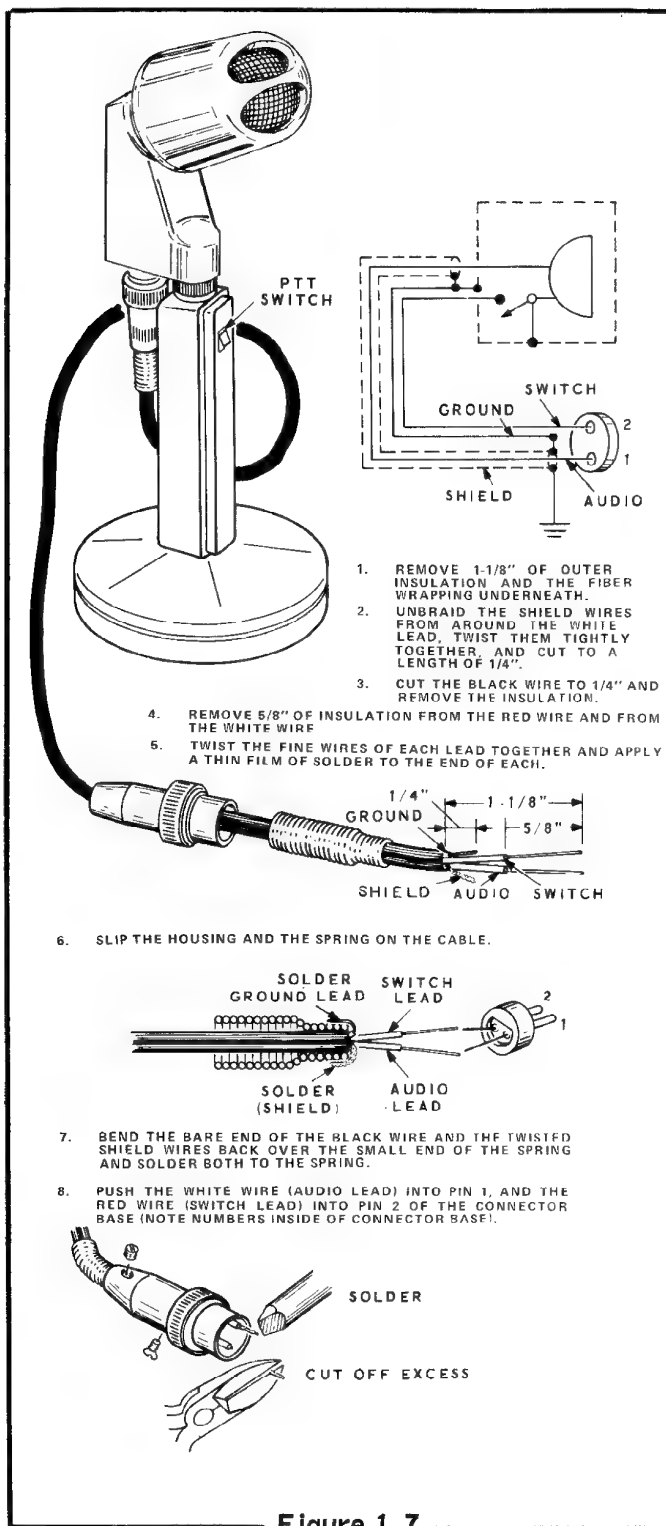

Figure 1-7
Refer to Figure 1-7 for the following steps.
- () Perform the numbered steps in Figure 1-7.